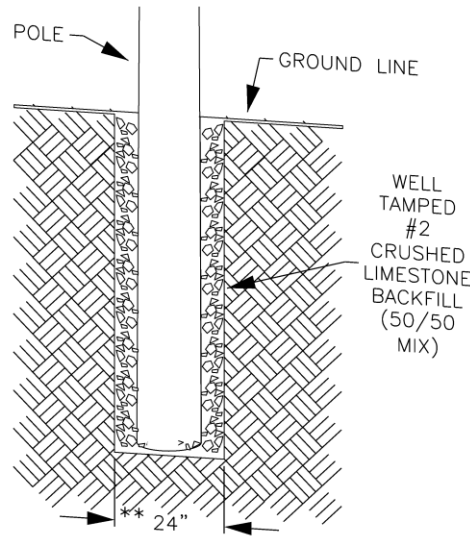

FIGURE 1
2. FOR SOFT SOIL CONDITIONS OR TRANSFORMERS WEIGHTING MORE THAN 1,000 LBS. EACH, BACKFILL HOLE AS SHOWN IN FIGURE 1.